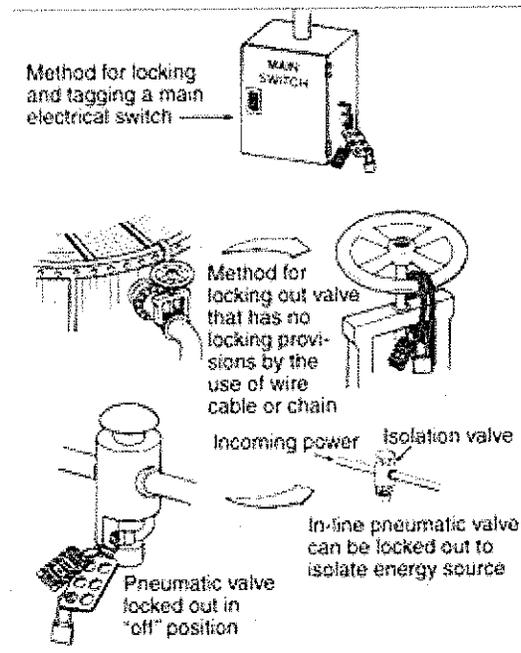

Figure B.1 - LOTO Methods
- c. *Determine methods of energy isolation.* The LOTO AW must determine the appropriate methods of controlling the hazardous energy. Methods for energy isolation may include such things as circuit breakers, disconnect switches, or valves (See example in Figure B.1). Push buttons, selector switches, and control circuits are *not* energy-isolating devices.